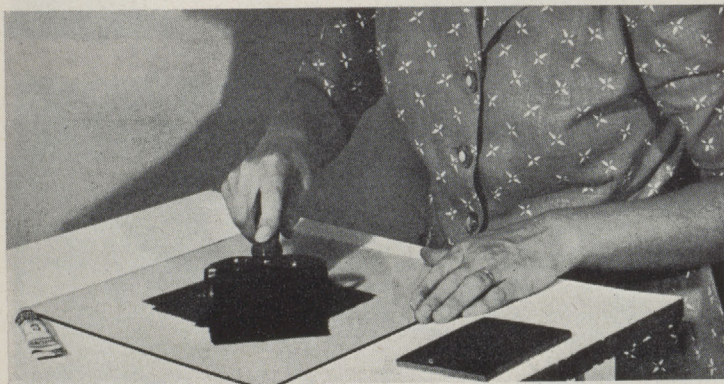

Fig. 3.—Inking the roller.
1. Roll the printer's ink on the glass until it is evenly and thinly distributed. (Fig. 3.)